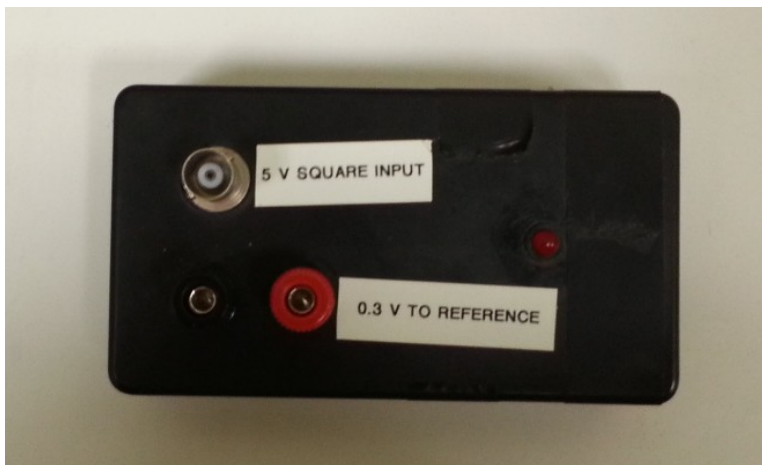

Figure 6: The circuit shown in the diagram 5 is built into a box, and makes a blinky light.
2. Once you have a nice signal from the function generator, move it to the blinky-light box with an LED mounted, at the “5 V square input” tap. The blinky light box is shown in Figure 6. The LED should blink. If you can’t see it, slow the frequency down, above around 30 Hz your eye can no longer distinguish the blinking.